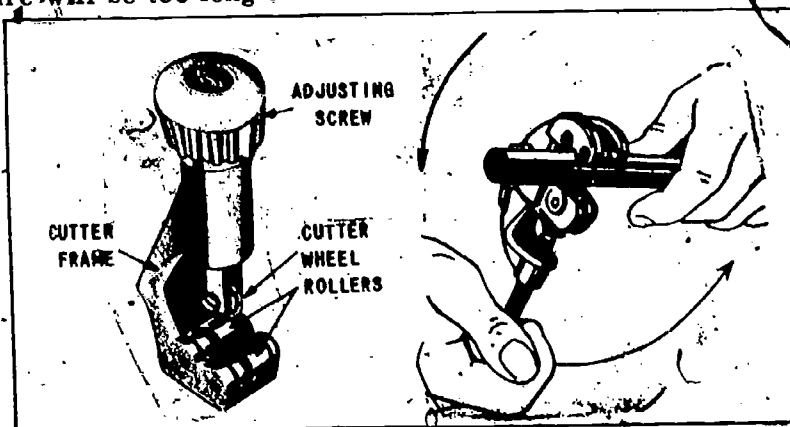
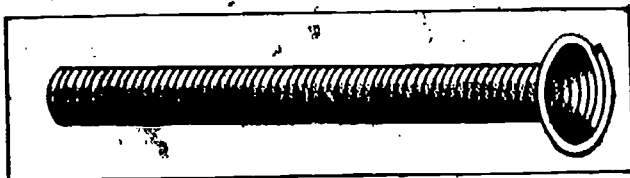
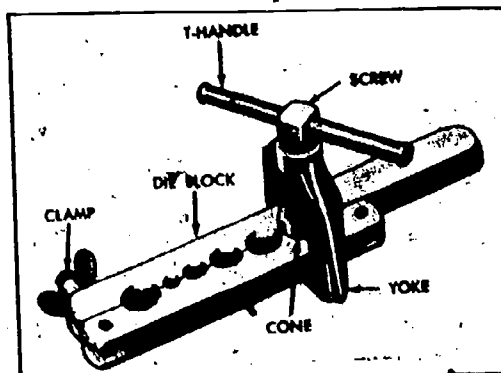

Fig 1-11. Tubing cutter and use.
Fig 1-12. Coil wire tube bender.
Fig 1-13. Flaring tool.
- (1) Hose. With bulk hose and reusable fittings, you can replace or repair most lines on engineer equipment. Although there are some special tools, they are not discussed in this course because you can do the same job with a pocket knife and your general mechanic's tools. The hose is made in several sizes and can be used for low-, medium-, and high-pressure lines. It can be used to replace or splice metal lines. Flexible hose helps overcome vibration damages, but it is easily cut and chafed.
- (2) Tubing tools. Tube cutters, benders, and flaring tools are used to repair or fabricate metal low-pressure fuel and oil lines. The cutter has two rollers and a cutter wheel mounted in a lightweight frame (fig 1-11). The cutter wheel is attached to an adjusting screw. Tubing is cut by placing it between the cutter wheel and rollers and adjusting the cutter wheel to cause a slight pressure on the tubing. (Too much pressure will crush the tubing.) The tool is rotated toward the open side and the cutter adjusted to maintain a slight pressure. Some cutting tool rollers have slots which make it possible to cut off only the flared portion of a line. Although tubing can be cut with other tools, the cutting tool helps obtain a square cut more quickly with less waste. Bending and shaping of the line is done after it is cut. All metal lines should have some bends to help absorb the vibrations and allow for expansion and contraction. To prevent kinking the tubing, a tubing bender similar to the one illustrated in figure 1-12 should be used. After the tubing has been shaped and the fittings installed, lines requiring flares can be finished with the flaring tool (fig 1-13). The tubing must be installed in the die block straight or the flare will be offset. It must extend through the die block the proper distance or the flare will be too long or too short.